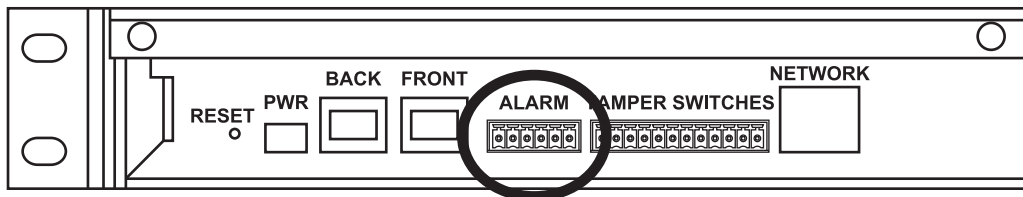

Figure 20. Alarm output terminals.
- The alarm output terminals are shown in Figures 20 and 21.